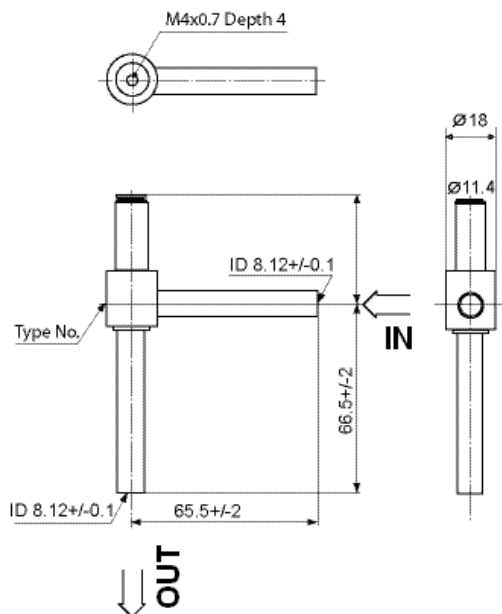

Figure 6: Control valve without coil
- The valve operation is directional. See **Figure 6** below for inlet and outlet locations.